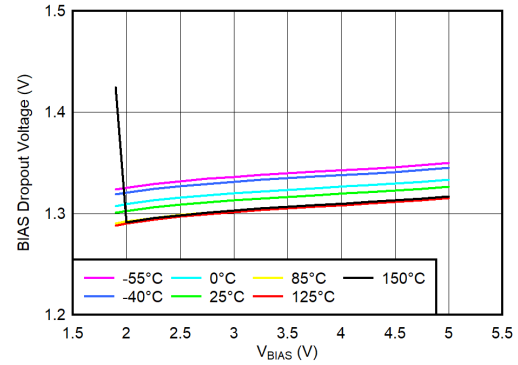

图 6-29.  $V_{IN}$  Dropout Voltage vs ( $V_{BIAS} - V_{OUT}$ ) and Temperature ( $T_J$ )
- (1) Adjustable devices tested at 0.8 V; resistor tolerance is not taken into account.
(2) Dropout is defined as the voltage from  $V_{IN}$  to  $V_{OUT}$  when  $V_{OUT}$  is 3% below nominal.
(3) 3.25 V is a test condition of this device and can be adjusted by referring to Figure 6-29.